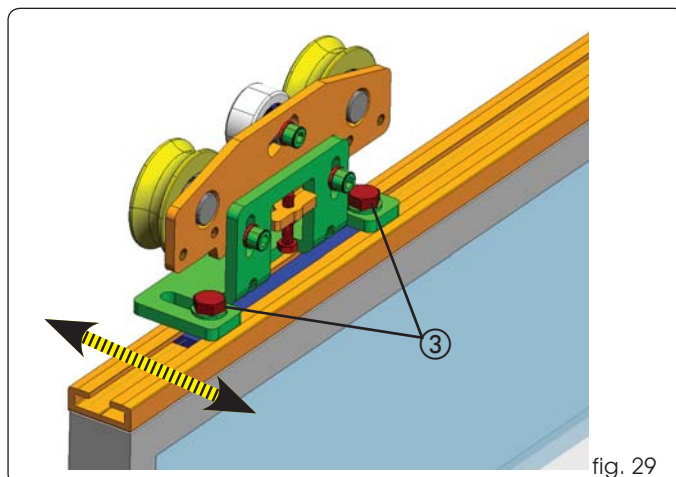

fig. 29
To adjust the depth of the leaves, loosen the 2 bolts as shown in Fig.29 ref. ③.